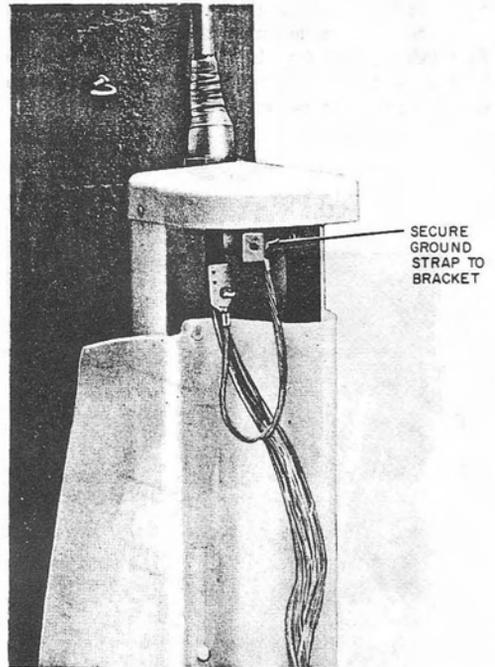

Fig. 17—Sheath Preparation for Aerial Entrance Cable
5.03 Cable sheath preparation for cable entering top of closure from aerial plant is illustrated in Fig. 17.